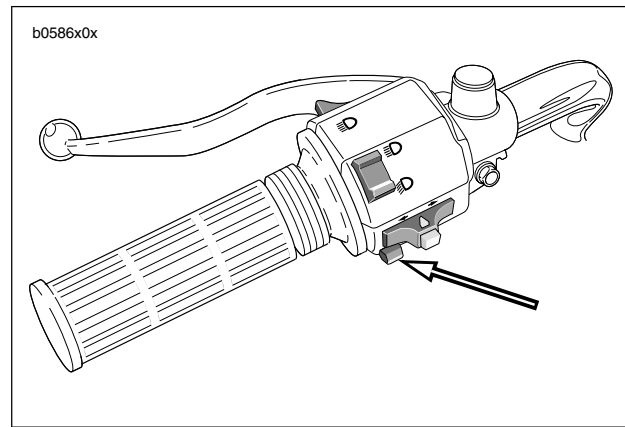

Figure 7-74. Horn Switch
3. See Figure 7-74. Depress horn switch and observe voltmeter reading.